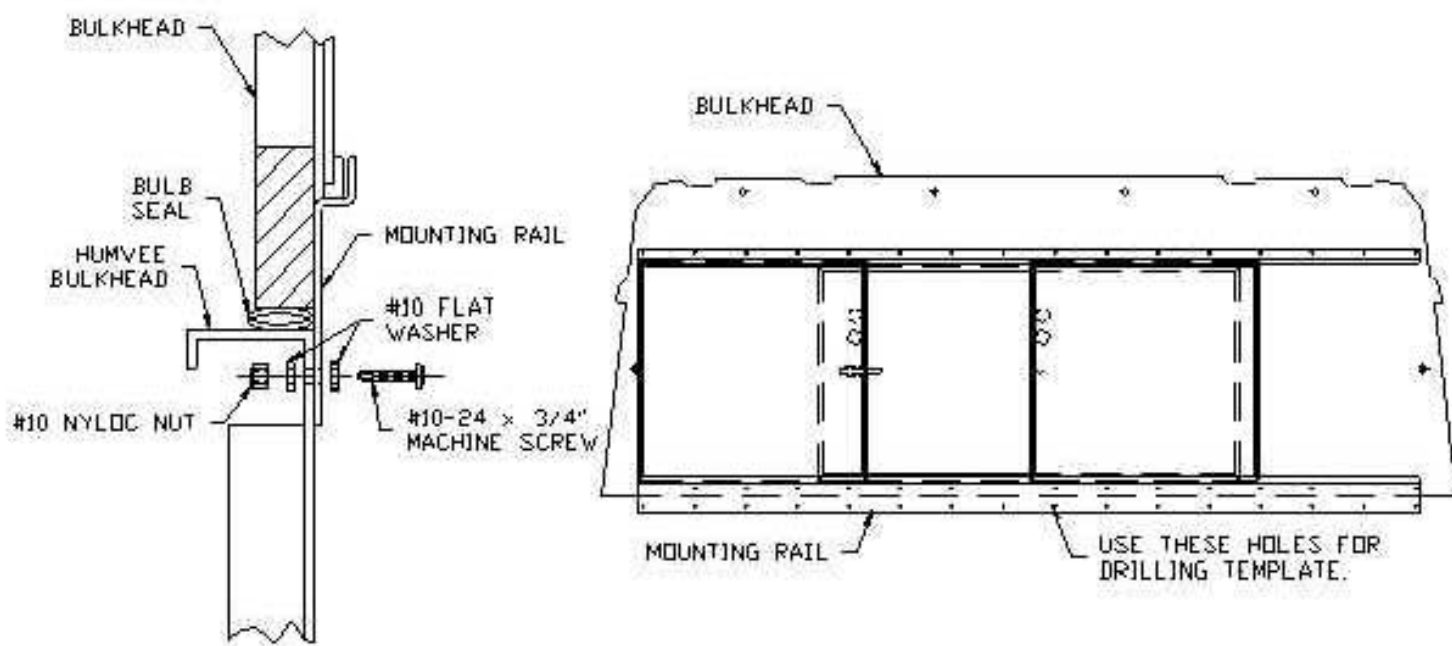

FIG 1-6
13. Position the hard top bulkhead so that the mounting rail contacts the vehicle bulkhead. Using the holes in the mounting rail as a template drill through the rear panel of the vehicle bulkhead with a 3/16" drill bit. Secure the mounting rail to the vehicle bulkhead with (16 ea.) #10-24 x 3/4" machine screws, (16 ea.) #10 nyloc nuts, and (32 ea.) #10 flat washers. See figure 1-6.